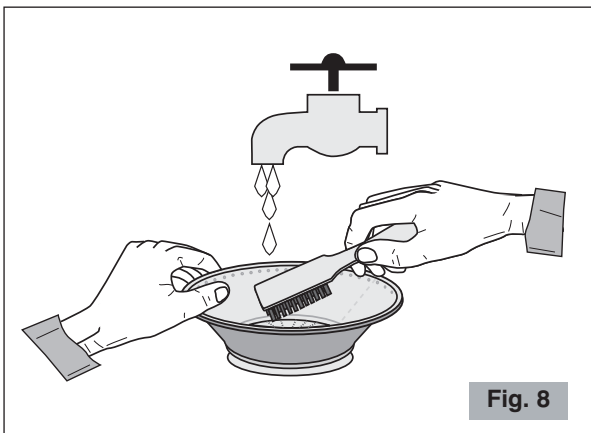

Fig. 8
- To obtain a higher yield of juice always control that the basket is well-cleaned by using a nylon brush. Put the basket under running water and use the brush to clean the inside of the strainer (see Fig. 8). Hold the basket up against the light to make sure that none of the perforations are blocked. Should the perforations of the strainer remain blocked, immerse the basket in a solution of hot water with 12% lemon juice or vinegar to loosen the blocked material.
Pulp appears excessively wet and a low quantity of juice is produced.	<ul style="list-style-type: none"> • Try to insert the fruit or vegetables more slowly and with less force. • Make sure that the basket is always carefully cleaned with a nylon brush. Put the basket under running water and use the brush to clean the inside of the strainer (see Fig. 8), holding the basket up against the light to make sure that none of the perforations are blocked. Should the perforations of the strainer remained blocked, immerse the basket in a solution of hot water with 12% lemon juice or vinegar to loosen the material that blocked them. Alternatively, wash the basket in a dishwasher. • Fruit too ripe.